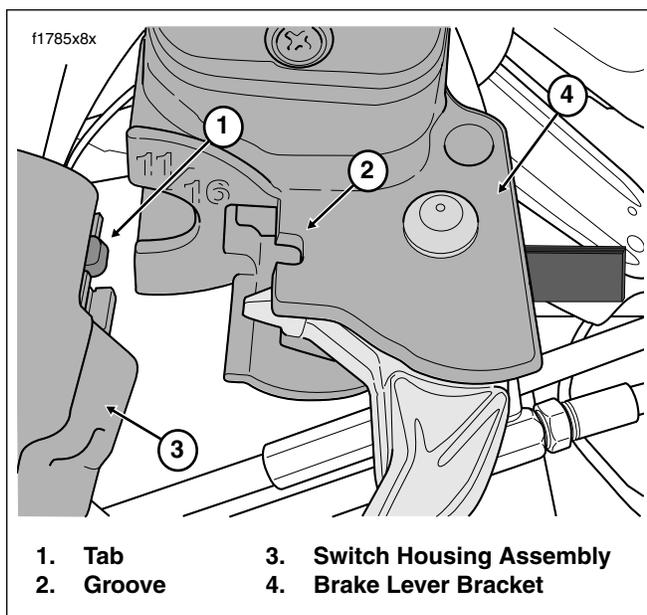

Figure 8-92. Fit Brake Lever/Master Cylinder to Right Handlebar Switch Housings
9. Position the brake lever/master cylinder assembly inboard of the switch housing assembly engaging the tab on the lower switch housing in the groove at the top of the brake lever bracket. See Figure 8-92.